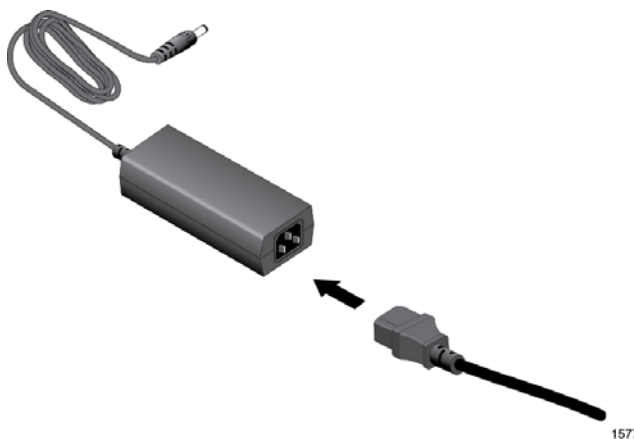

Figure 9. Connecting the Power Cord to the AC/DC Adapter
5. Connect the power cord to the AC/DC adapter. Refer to Figure 9.